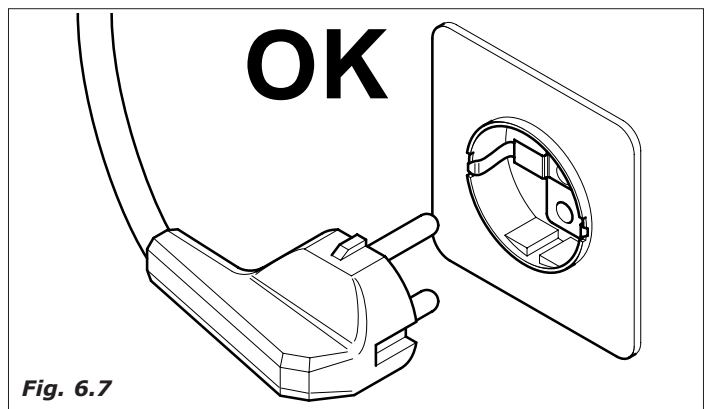

Fig. 6.7
- The distributor is equipped with a power supply cable of H05VV-F 3x1,5mm², with SCHUKO plug (Fig.6.7).